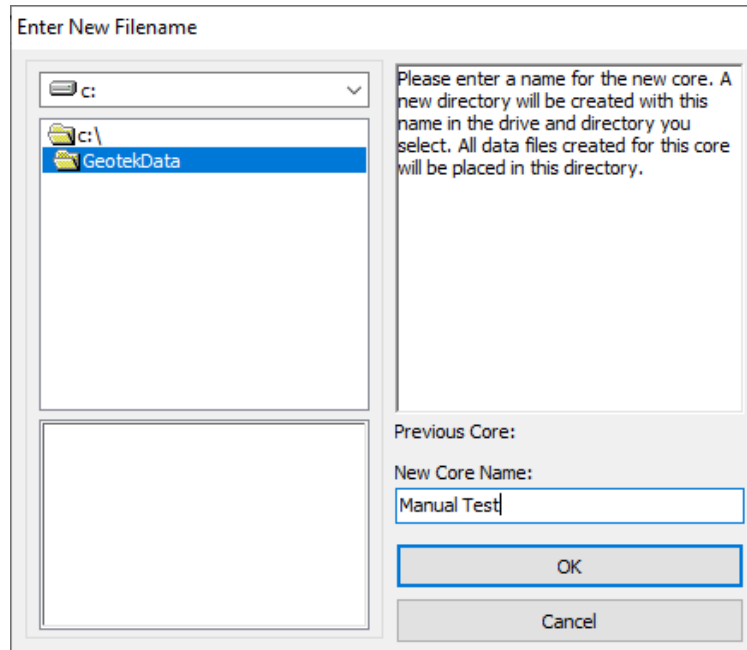

Figure 4.3: Enter New Filename panel in MSCL-S software
- The new file window will open, Figure 4.3. Enter a new core name in the 'Enter New Filename' panel and choose the directory in which the data is to be stored (normally C:\GeotekData). This is the directory in which all data relating to this core will be stored. Note that raw data is stored in a binary format and has the